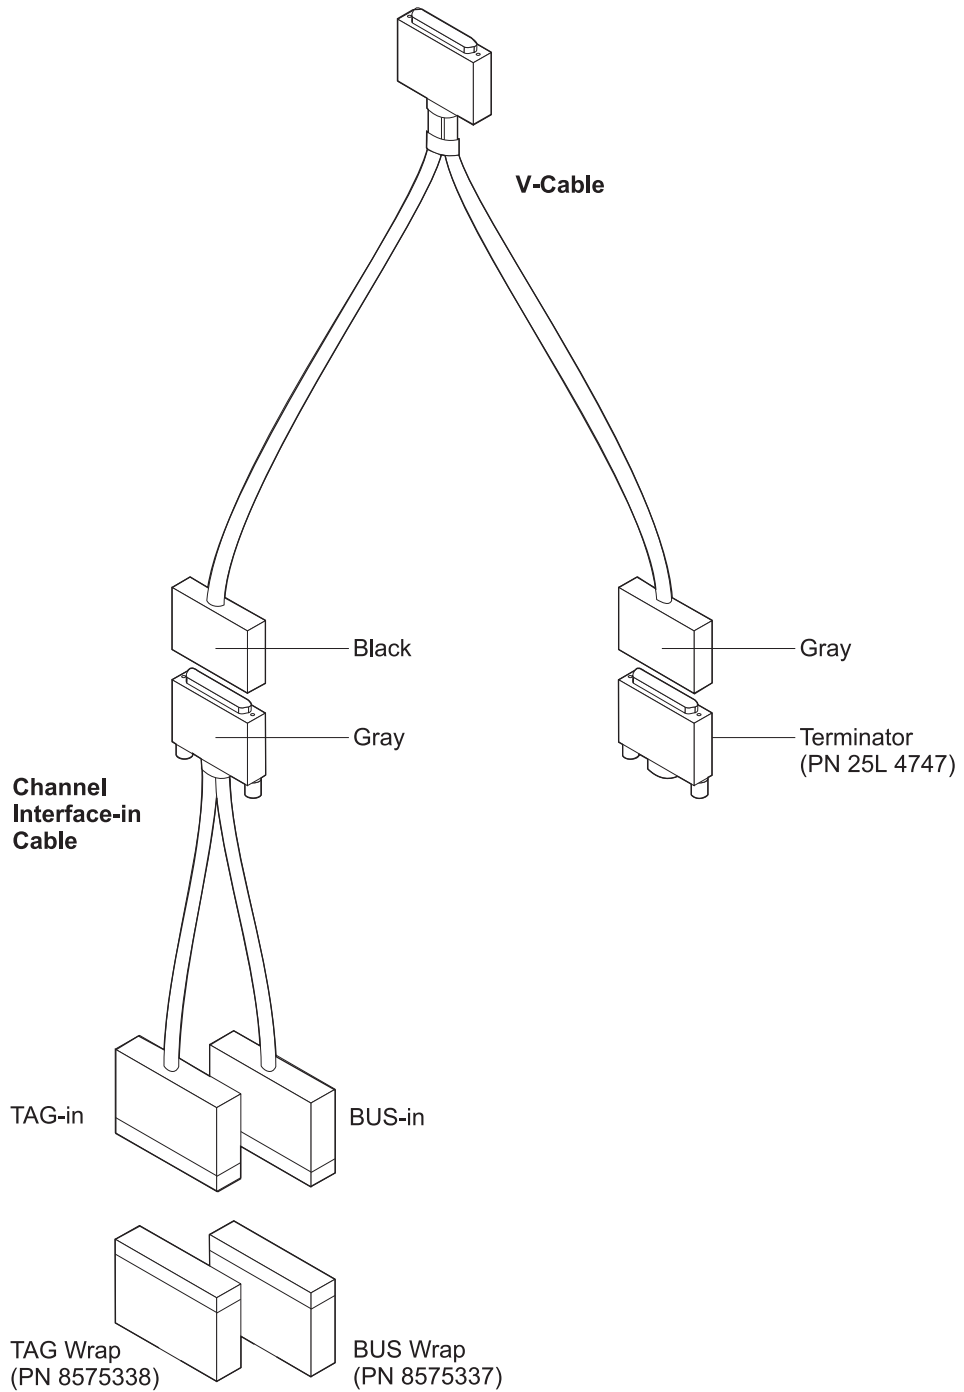

Figure 1-8. Channel Interface-in Wrap Test Connections
3. V-cable and the Channel Interface-in, see Figure 1-8 on page 1-26